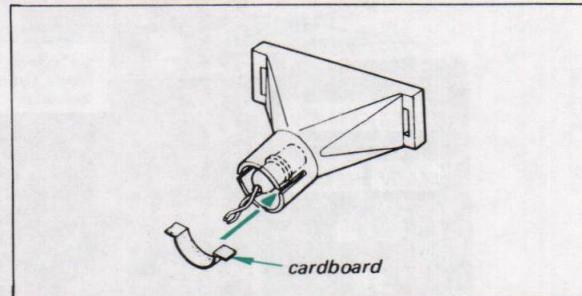

Fig. 2-13. FUNCTION indicating lamp installation
- When installing a new lamp, fix it with a piece of cardboard and a drop of contact cement as illustrated in Fig. 2-13.